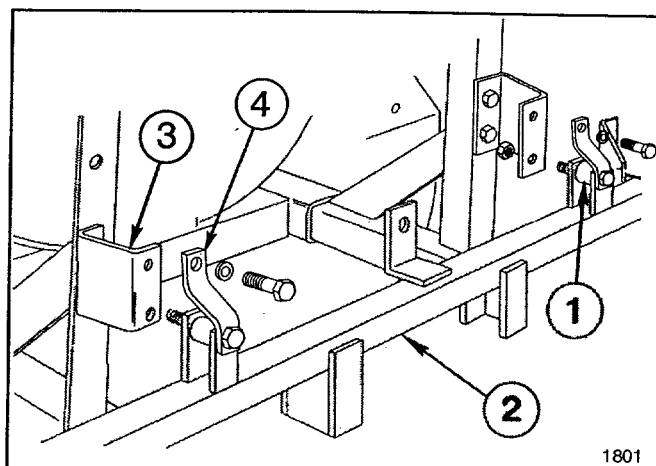

FIG. 5
7. Position a Spacer Tube between the lugs on each side of the Main Frame tube. Insert a 1/2" x 2-3/4" Grade 8 cap screw through the lugs and spacers. Secure the Main Frame to the Boom Mounting Brackets with flange nuts. Torque to 105 ft lbs. (142 N-m) (See FIG. 5)